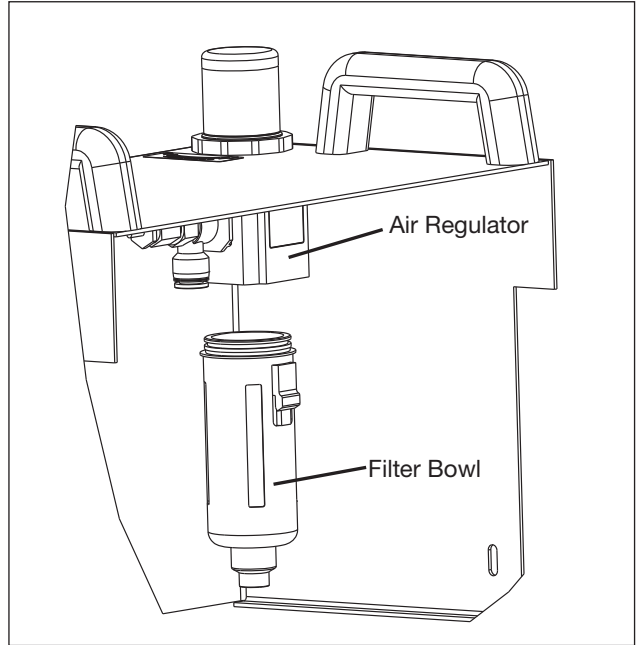

Figure 17 - Air Regulator and Filter Bowl
3. Grasp the filter bowl and depress the release button. Pull straight down and remove the filter bowl from the air regulator. See Figure 17.